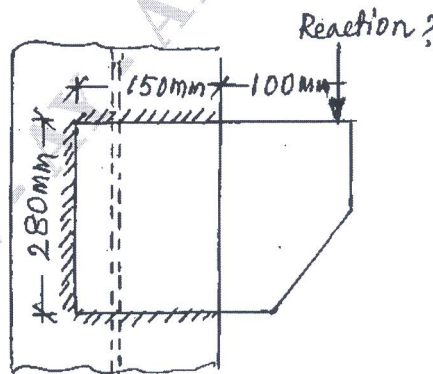

Fig.Q3(c)
c. A bracket plate of thickness 16mm, is welded to the flange of column ISHB400@759.3 N/m. If the size of weld is 8mm, compute the reaction that can be allowed on the bracket in Fig.Q3(c). (10 Marks)